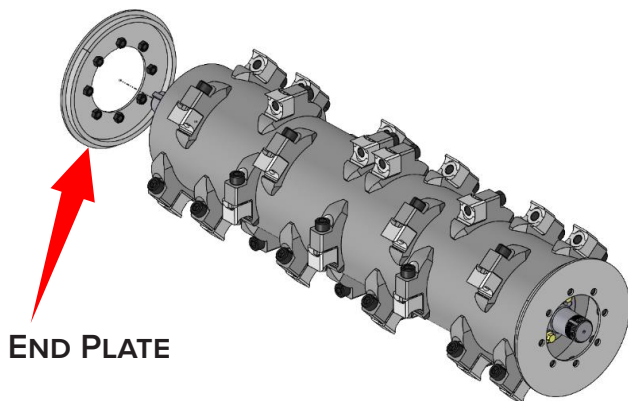

Figure 27
2. Slip the cutting drum out with the end plates on. See Figure 27.